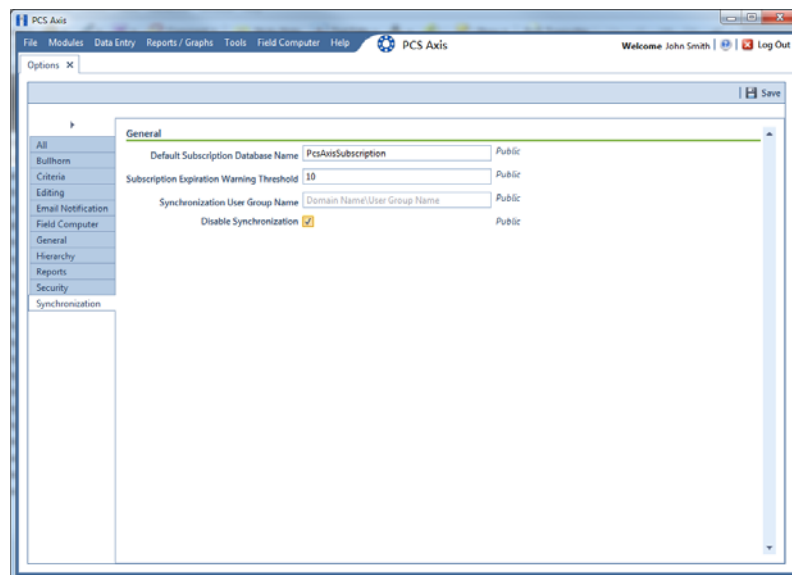

Figure 3-15. Disable Synchronization
- 1 Click **Tools > Options > Synchronization** to open the synchronization property settings window (Figure 3-15).